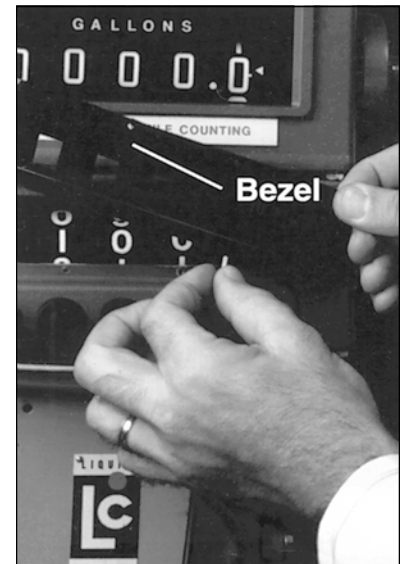

Figure 16a: Bezel Removal
2. Remove the bezel (Figure 16a).